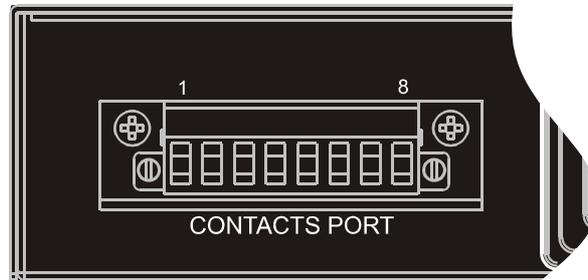

Fig. 9: Focus on contacts port.
The contacts port is formed using eight (8) pins numbered from left to right (see fig. 9), with monitoring system (such as a BMS) in order to monitor the operational status of the ATS. The external equipment must respect the voltage and current characteristics of contacts.